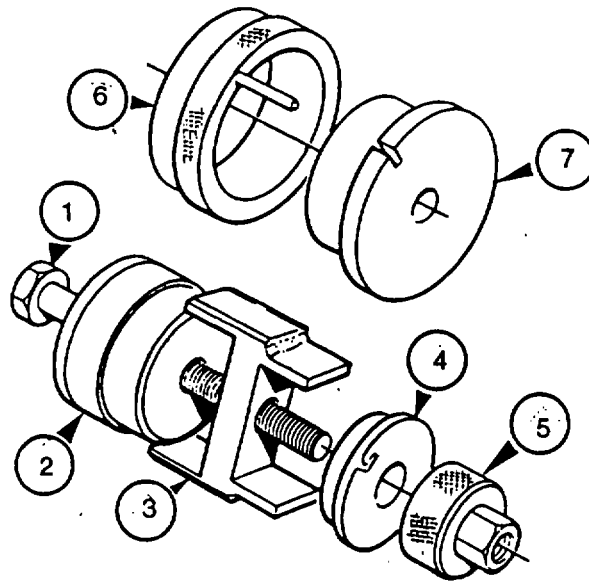

FIGURE 3-41. Main Bearing Tool
- g. Remove thrust bearing (5).
- i. Using suitable driver, drive oil seal (6) from housing (3) taking care not to damage bearing (7).
- j. Remove bearing (7) from housing (3) as follows:
- (1) Mount housing (3) in a soft-jawed vice.
- (2) Place bolt of main bearing tool (317-50111) through plain dolly, refer to FIGURE 3-41.